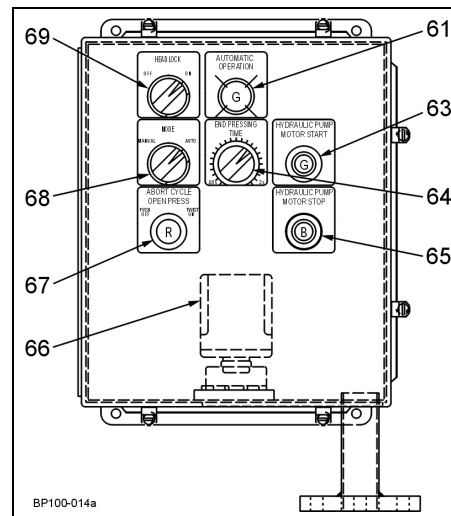

Figure 3 - Operator Push Button Panel
1. In emergency, push in red abort cycle push button (Figure 3, item 67) located on operator push button panel.